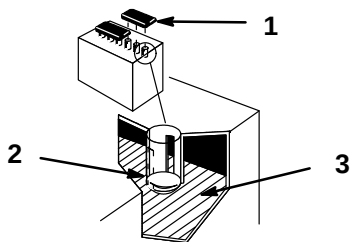

Figure 50
1. Open covers to see into the cells. The electrolyte must be up to the lower part of the tube (Fig. 50). Do not allow the electrolyte to get below the plates. (Fig. 50).
2. Lift off the filler caps (Fig. 50).
3. Slowly pour distilled water into each battery cell until the level is up to the lower part of the tube (Fig. 50).